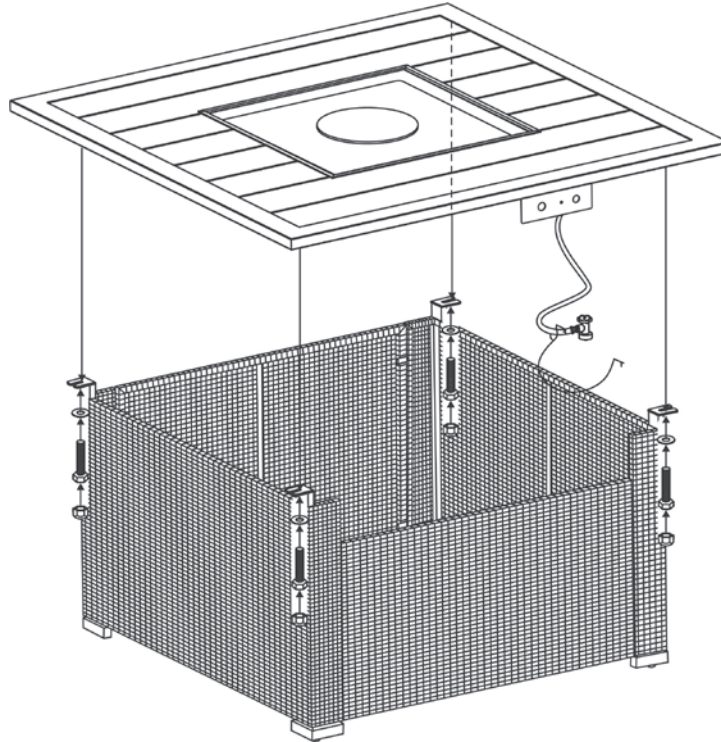

Figure 5
5. With the help of another person, carefully place the table top onto the table base. After making any necessary adjustments to the alignment of the table top and the assembled base, use four 1/4"x15 mm bolts and washers (M) as shown in Figure 5. Guide the bolts through the holes under the table top, into the pre-drilled holes in the side panels. **Do not tighten completely.**